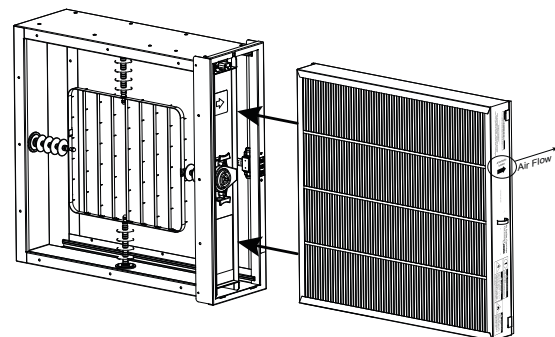

Fig. 16 - Replace Filter
2. Slide the filter into the cabinet next to the FEM with the filter pull-tab facing outward and paying particular attention to the airflow direction arrows. See Fig. 16.